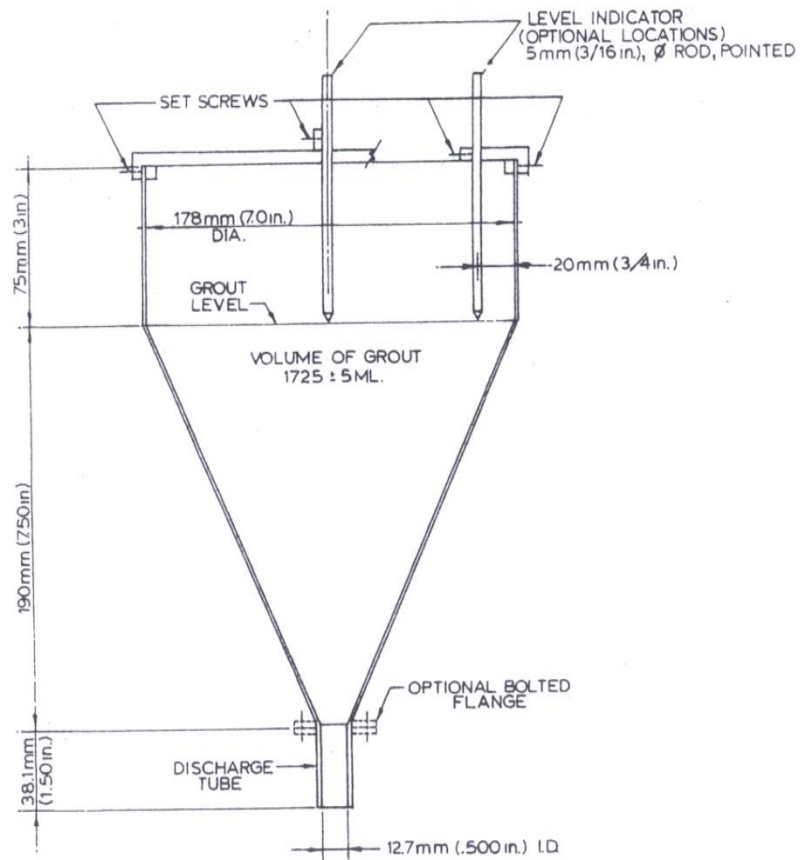

Figure 1 - Cross Section of Flow Cone
1. Flow Cone, with dimensions as shown in Figure 1. The discharge tube shall be stainless steel. The body can be stainless steel, cast aluminum, or other non-corroding metal.
The flow cone shall be firmly mounted in such a manner that the top will be level and the cone free from vibration. The discharge tube shall be closed by placing a rubber stopper from the underneath side into the lower end. A quantity of water equal to 1725 ± 5 mL shall be introduced into the cone to indicate the grout level as per Figure 1. Calibrate the cone in accordance with the manufacturer's recommendation.
2. Place rubber stopper into the outlet of the discharge tube. Introduce grout into the cone until the grout surface rises into contact with the grout level as per Figure 1. Start the stopwatch and remove the rubber stopper simultaneously. Stop the stopwatch at the first break in the continuous flow of grout from the discharge tube. The time indicated by the stopwatch is the time of efflux of the grout. At least two tests shall be made for any grout mixture. Results from two properly conducted tests on the same material should not differ by more than $2 \frac{1}{2}$ seconds.